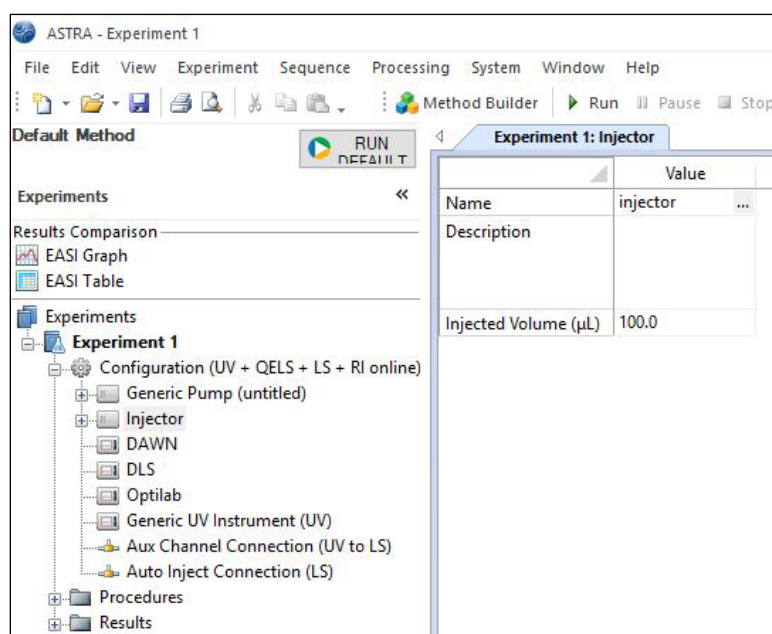

Figure 11. A screenshot of the ASTRA software with the **Configuration** node expanded and **Injector** selected.
1. Expand the experiment Configuration and double-click on Injector to define the Injected Volume ( $\mu\text{L}$ ) (see Figure 11):